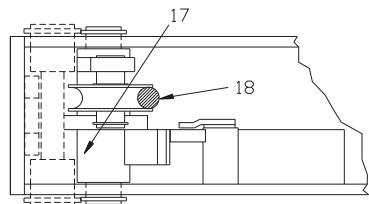

Fig.48 Positioning of lifting cable sensors
Fig. 42: screw the nuts (25) and washers (26) onto the terminal blocks (19). During this procedure make sure that the sensors (17) are correctly positioned on the lifting cables (18) as shown in figure 48
Before operating with the lifter check that the cables are in correct position on the pulleys. Close the panel, put the switch (QS) in pos. 1 and make the lift rise until clearing the wedges (A-B-C-D); then put the switch in position 0 and close them again. Put the main switch (QS in fig. 53) in position 1, press the lowering button (SB2) and check if the lift lowers. If this doesn't happen, check the adjustment of the four cable sensors (pos. 17, fig. 48) and, if necessary, adjust them by acting on the screw of the micro switch release lever (pos. 36, fig. 55).